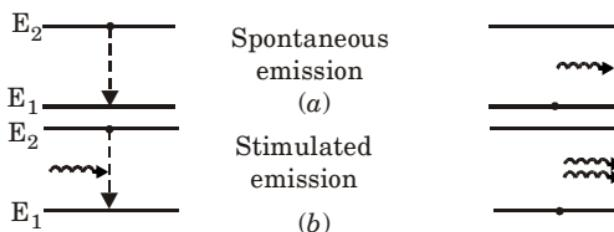

Fig. 12.
8. From Fig. 12 it is observed that in spontaneous emission atom from higher energy state returns to lower energy state in an entirely random manner whereas in stimulated emission, a photon having an energy equal to $(E_2 - E_1)$ interacts with the atom in the higher energy state causing it to return to the lower state with the creation of a second photon.